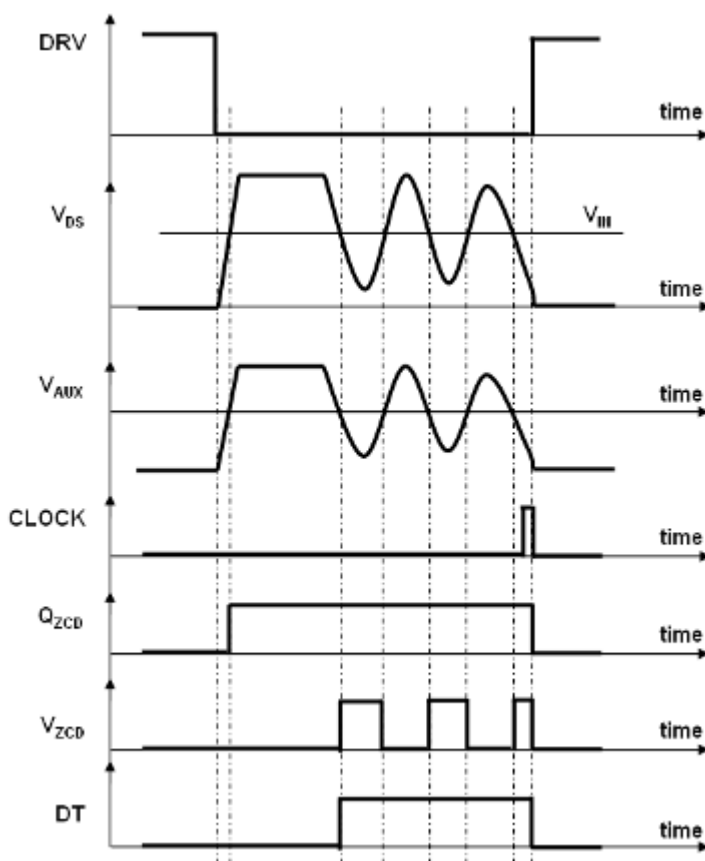

Figure 12. Zero Current Detection Timing Diagram
Practically, an auxiliary winding in flyback configuration is taken off of the boost inductor and gives a scaled down version of the inductor voltage that is usable by the controller (Figure 12). In that way, the ZCD voltage (“ $V_{AUX}$ ”) falls and starts to ring around zero volts when the inductor current drops to zero. The NCP1631 detects this falling edge and allows the next driver on time.
- However, the coil current can possibly be non zero when the clock signal turns high. The circuit would enter Continuous Conduction Mode (CCM) if the MOSFET turned on in that moment. In order to avoid CCM operation, the clock is prevented from setting the PWM latch until the core is reset (that is as low as “VZCD” of Figure 8 is low). The clock signal remains high during this waiting phase (refer to Figure 12). Hence the next MOSFET conduction time occurs as soon as the coil